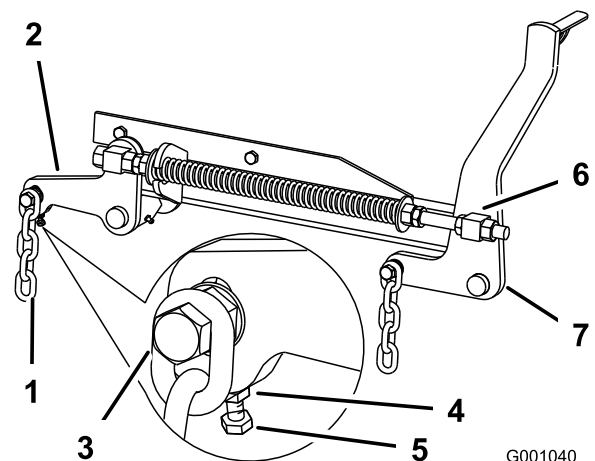

Figure 77
7. If the measurements at positions **B** or **C** are not correct, loosen the bolt attaching the rear chain to the rear support arm (Figure 77).
- Loosen the jam nut under the rear support arm and adjust the adjustment bolt to get a measurement of 3-1/8 to 3-1/4 inches (80 to 83 mm) (Figure 77).
- Loosen the front swivel jam nuts, at the front of the right and left swivels, approximately a 1/2 inch (13 mm) (Figure 77).
- Adjust the lift nuts on both the left and the right side of the machine to achieve 1/4 to 3/8 inch (6 to 10 mm) lower in front at **A** than in the rear at **B** (Figure 77).